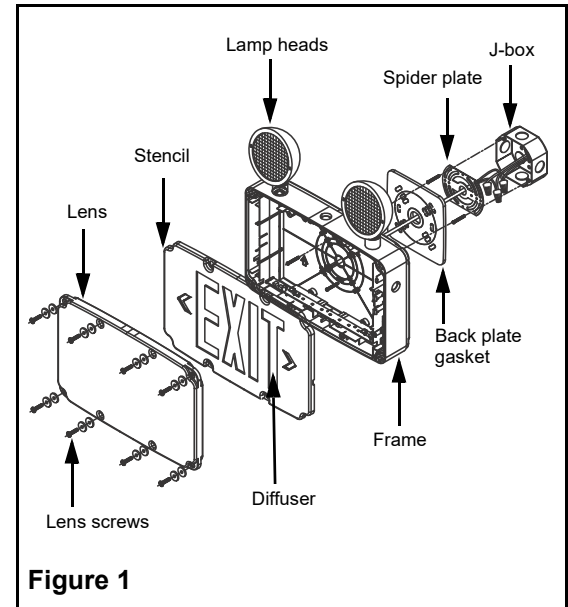

Figure 1
3. Open unit by loosening screws on lens (Fig. 1 & 2).
Wall mounting (Figure 1)